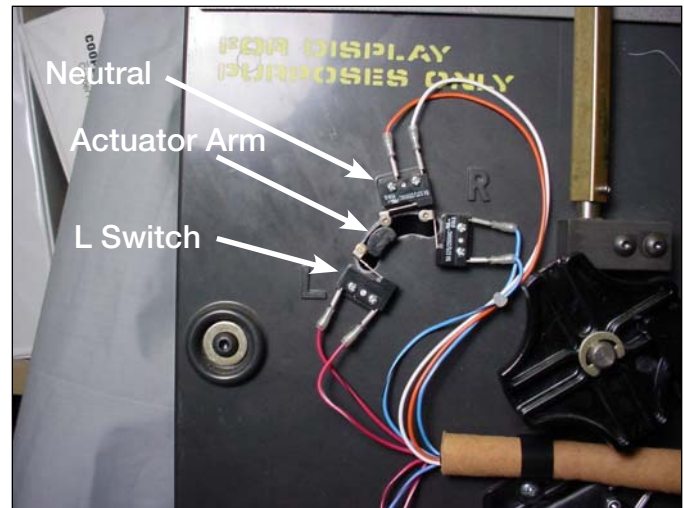

Figure 30.
- Place and fasten the reversing logic and neutral logic micro switches on the upper left of the drive assembly panel. The micro switch with a blue white striped wire and blue black striped is located on the R position. The micro switch with a red white striped wire and red black striped wire is located on the L position. The micro switch with an orange wire and a white wire is located on the center position between the R and L position. See Figure 30.
- Rotate the pinion back clockwise until the arm in Figure 30 is in the center and the neutral switch is depressed.